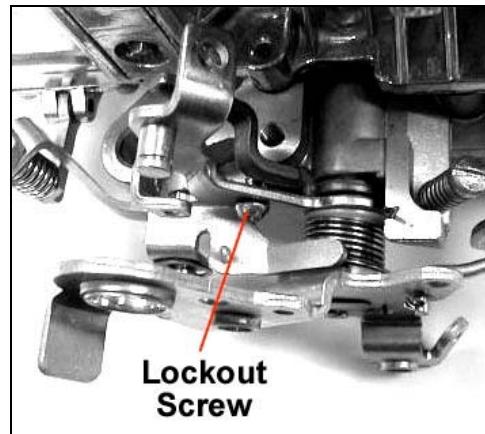

Figure 4—Ford applications
3. Remove the lock out screw from the kickdown lever (Figure 4).